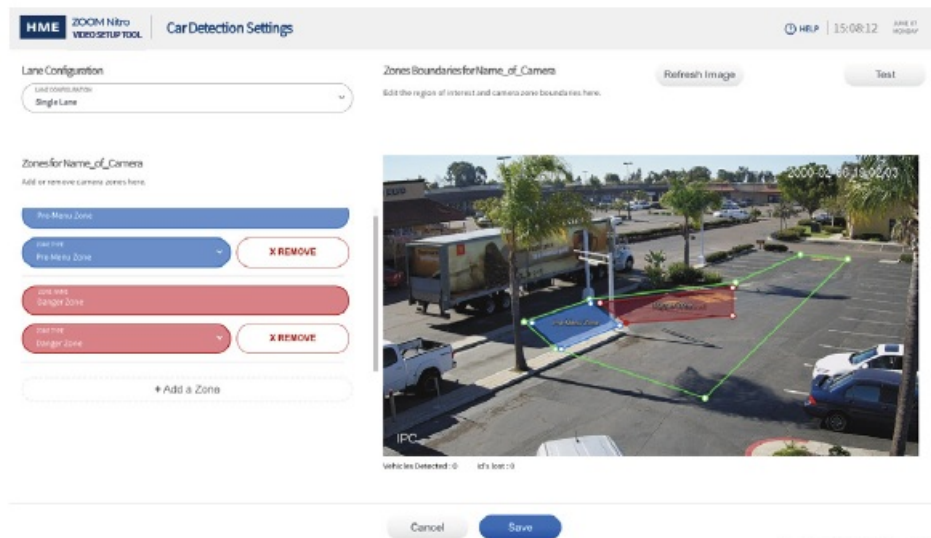

Fig. 4.6
- **Region of Interest (ROI):** This is the selected area within the camera's field of view that the system is concerned about. This region defines the overall region of interest which includes the Danger and Pre-Menu Zone(s) and/or Mobile/Pull-forward Zone(s). Fig. 4.6 defines the Region of Interest for a Single-Lane configuration. The green boundary line indicates this region.
- **Danger Zone (DZ):** This is an area of the drive-thru where cars get in line to join the queue for the drive-thru, but still have the ability to drive off without placing an order. Vehicles might do this if the wait time is too long or they simply decide they don't want to order anything. In Fig. 4.6, the red area defines the Danger Zone.
- **Pre-Menu Zone (PM):** This is an area approach-ing the menu board where vehicles are captive or bound in by the lane. Vehicles at this point have already passed through the Danger Zone and cannot easily drive off. In Fig. 4.6, the blue area defines the Pre-Menu Zone.
- Finally click + Add a Zone button again, the Danger Zone fields appear with a new bounding box (red) in the image (it will be yellow if it over-laps the ROI). Adjust this box as you did with the ROI to define this zone and click Save when you are finished. You should now have three zones in your image, one ROI zone (green boundary line), one Pre-Menu zone (blue area), and one Danger zone (red area). This completes the Zone Drawing section, see Fig. 4.6.